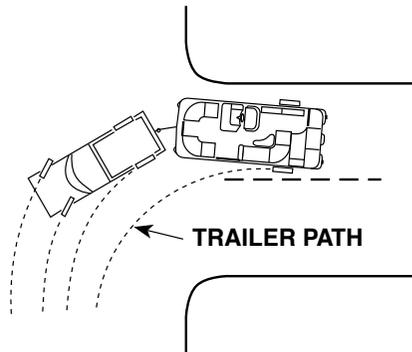

FIGURE 4-2 TURNING WITH TRAILER
7. Be aware that a turn for the trailer is wider than a turn for the tow vehicle (Figure 4-2). When making a turn, be careful that your trailer does not strike another vehicle or object.